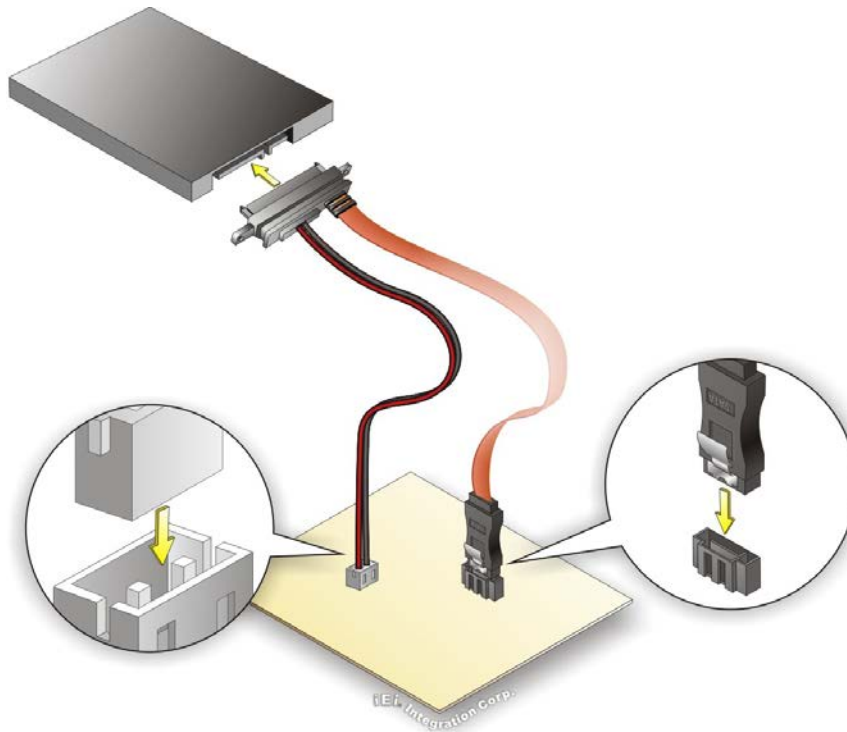

Figure 4-24: SATA Drive Cable Connection
- Step 2:** **Insert the cable connectors**. Insert the cable connectors into the on-board SATA drive connector and the SATA power connector. See **Figure 4-24**.
Step 3: **Connect the cable to the SATA disk.** Connect the connector on the other end of the cable to the connector at the back of the SATA drive. See **Figure 4-24**.